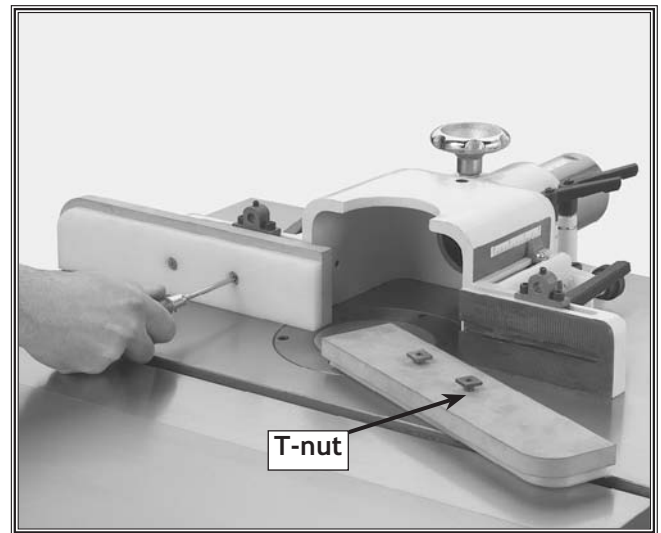

Figure 12. Installing fence facing.
1. Using 1/4"-20 x 5/8" Countersunk Phillips® head screws, 1/4" washers, and 1/4"-20 T-nuts; install each fence facing to the fence mount brackets as shown in **Figure 12**.